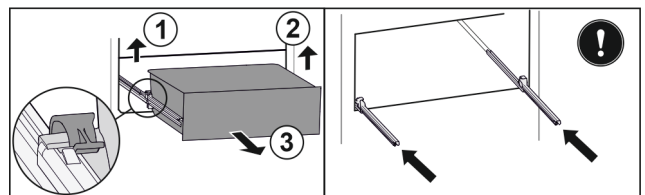

Fig. 165
- ▶ Lift left clamp and simultaneously pull drawer forwards on the left. Fig. 165 (1)
- ▶ Lift right clamp and simultaneously pull drawer forwards on the right. Fig. 165 (2)
- ▶ Remove drawer to the front. Fig. 165 (3)